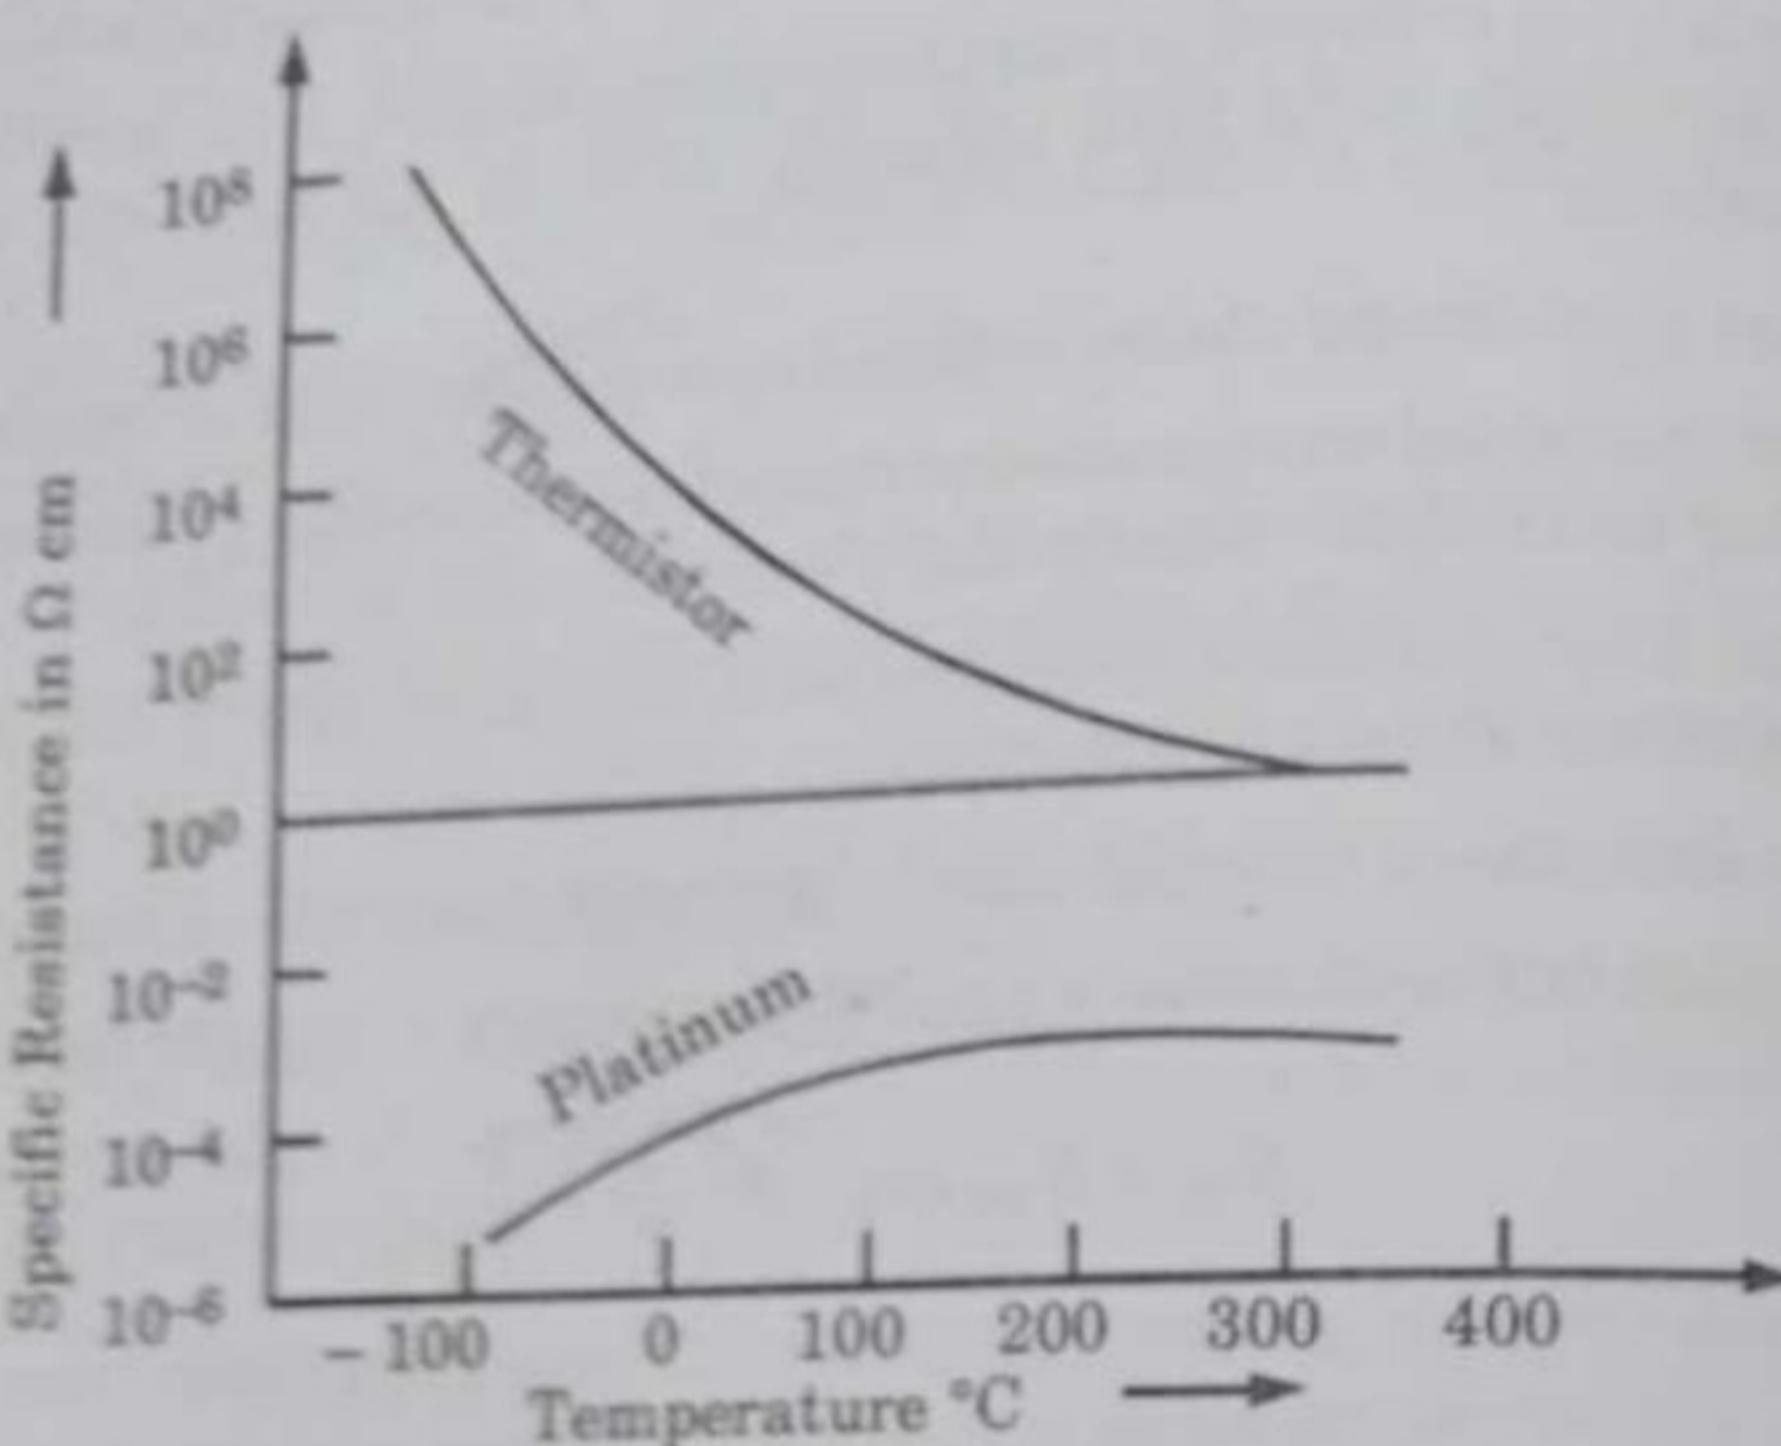

Fig. 2.4.2.
8. Fig. 2.4.2 shows the relationship between resistance and temperature of different materials.